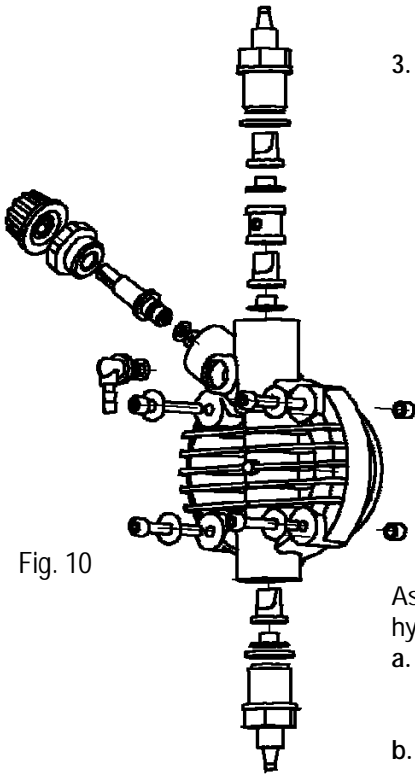

Fig. 10
2. Check pump operation, screw seals and gaskets every 6 months and for very aggressive liquids make more frequent checks and in particular monitor the concentration of the plant additive; a reduction in additive concentration could be determined by wear on the valves (in this case substitute the valves being careful to reassemble them as in Fig. 10) or by clogging of the filter which must be cleaned as follows.
To perform this operation when the equipment is not fixed to the plant, the pump can be pulsed for a few seconds (15-30) keeping it overturned and without piping connected to the fittings. If this is not possible disassemble and reassemble the pump body (Fig. 10), using the four fixing screws.